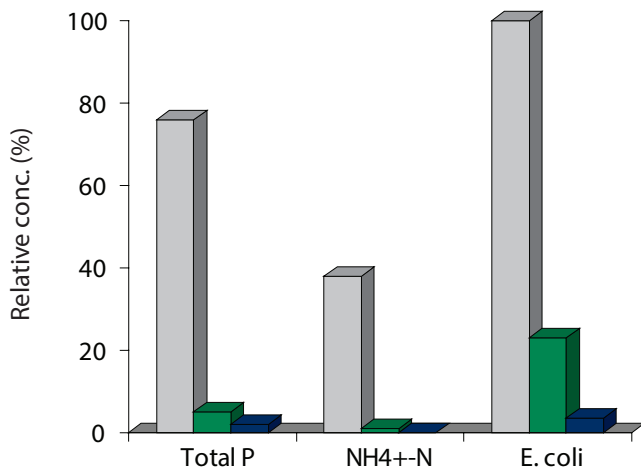

Figure 1.
- Nitrogen levels in the drainage are minimized to almost zero (figure 1)